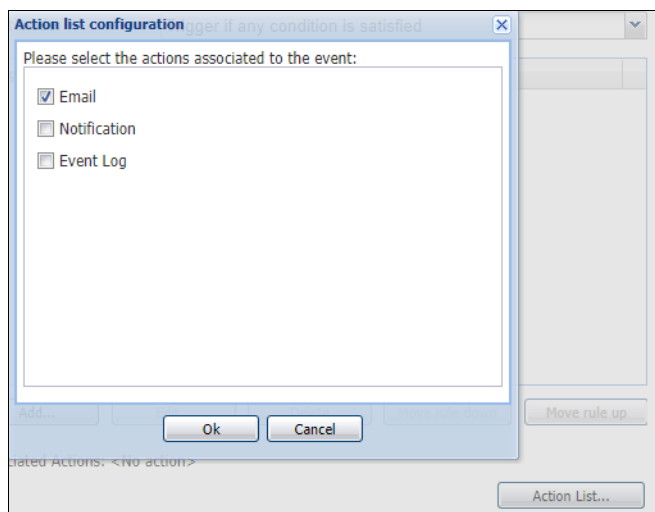

Figure 44 Action list for trigger events
13. Click the **Action List** button to apply an action to the event. The action dialog box is shown in Figure 44 on page 49.